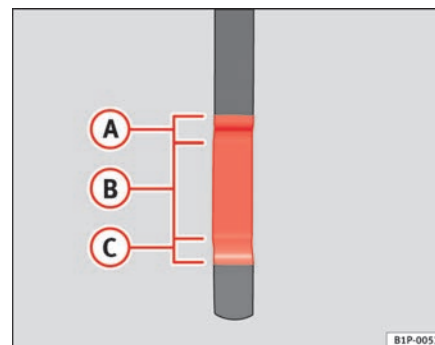

Fig. 144 Engine oil dipstick.
- Then pull it out once more and check the oil level ⇒ fig. 144. Top up with engine oil if necessary.